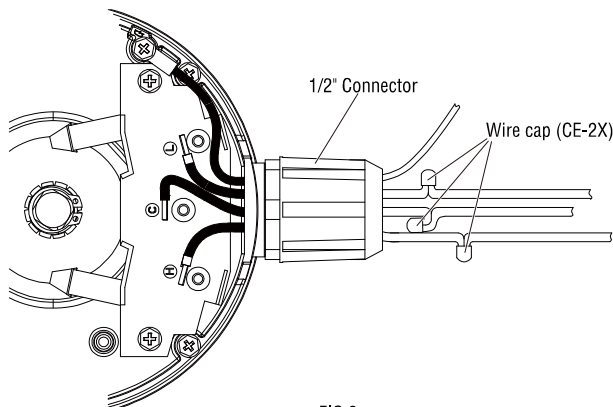

FIG.3
- Install 1/2" connector to rear end cover. Install ground wire to ground rod. Use multi-function crimping pliers to connect three wires with three wire caps. (FIG.3)